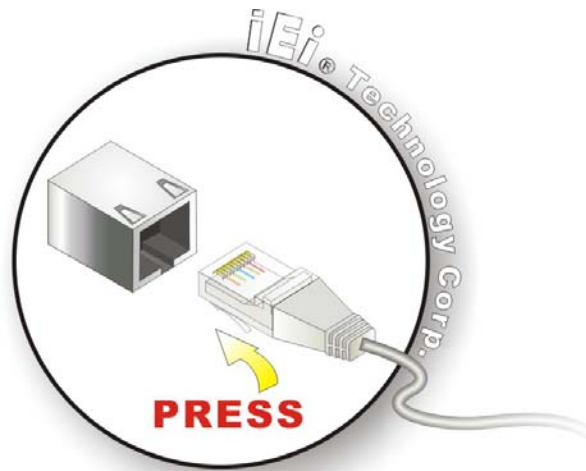

Figure 3-5: LAN Connection
Step 1: Align the connectors. Align the RJ-45 connector on the LAN cable with one of the RJ-45 connectors on the IOVU-752S. See **Figure 3-5**.